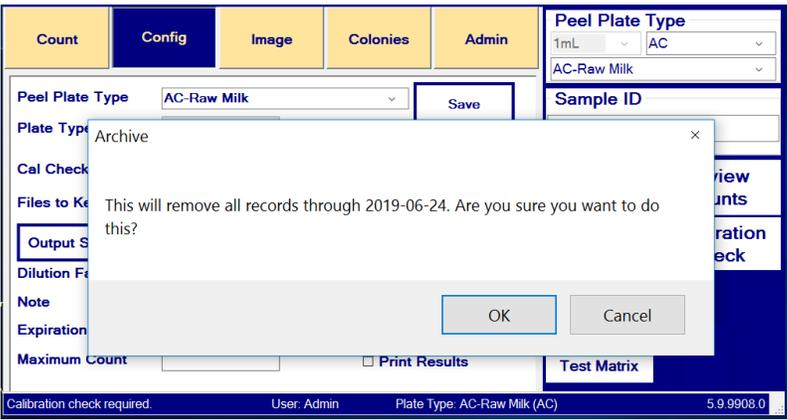

Figure 37
- If a memory device with enough available memory and correct permissions is detected, a window populates confirming the intent to permanently move data off the internal memory, (Figure 37). Press **OK** to proceed or **Cancel** to abort.